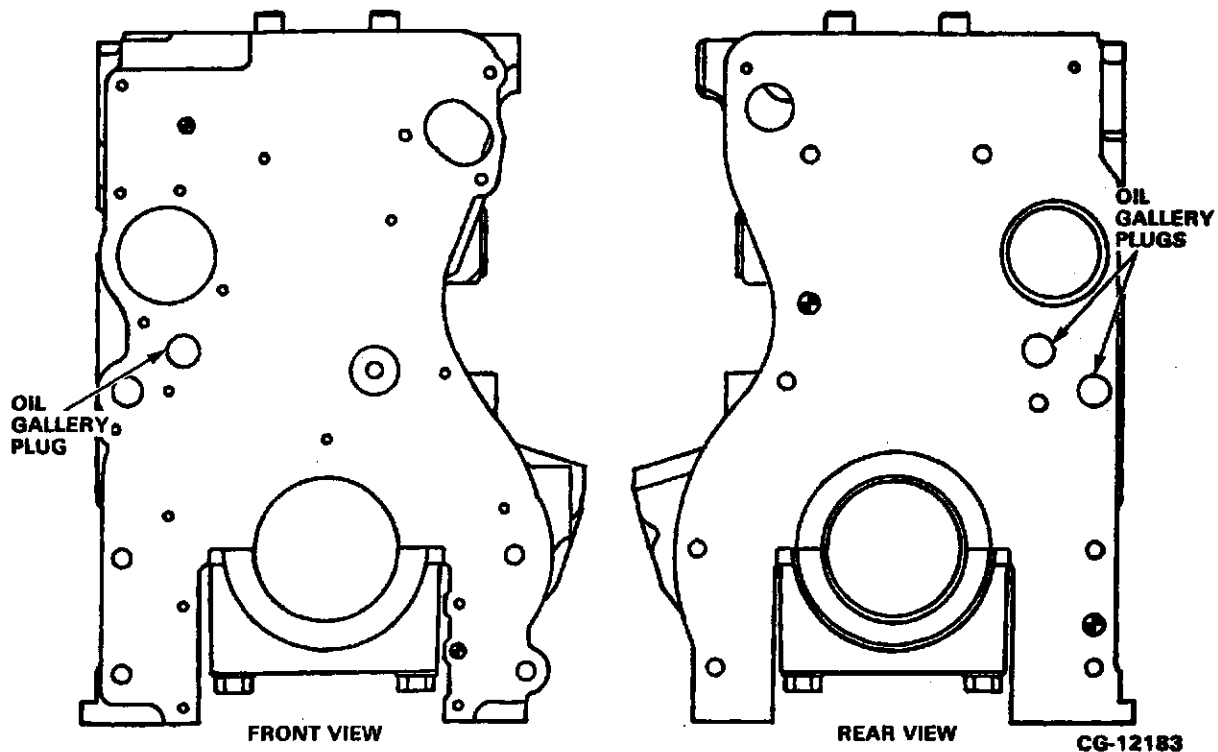

Figure 7.54. Main Oil Gallery Plug Locations
- b. Using a small pry bar, pry the plug out. Refer to Figure 7.54.